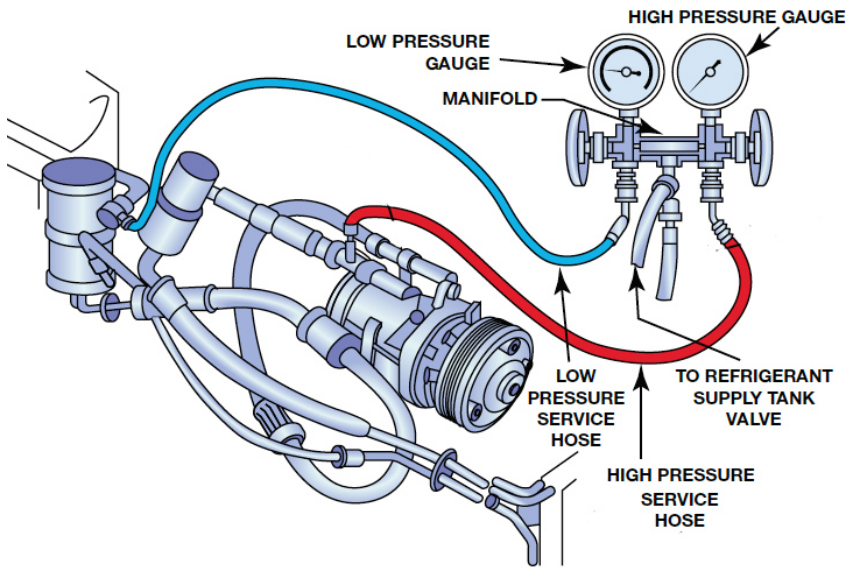

Figure 13. HVAC gauge set installation.
- Install pressure gauges to the service ports. Figure 13.